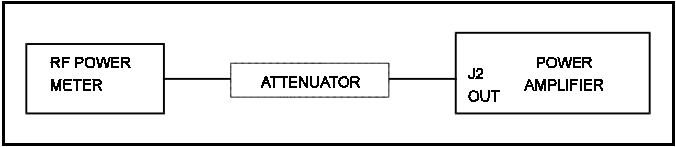

Figure 13 - Power Output Test Setup
1. Connect an RF Power meter (through attenuator if necessary) to the output of the PA at J2. See Figure 13.